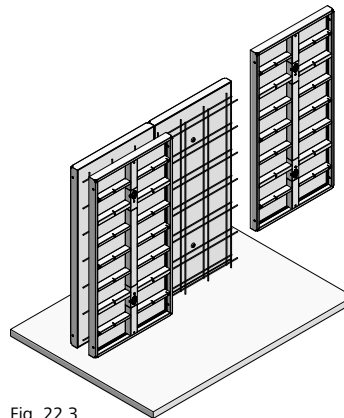

Fig. 22.3
2. Place final-formwork panel (Fig. 22.3).